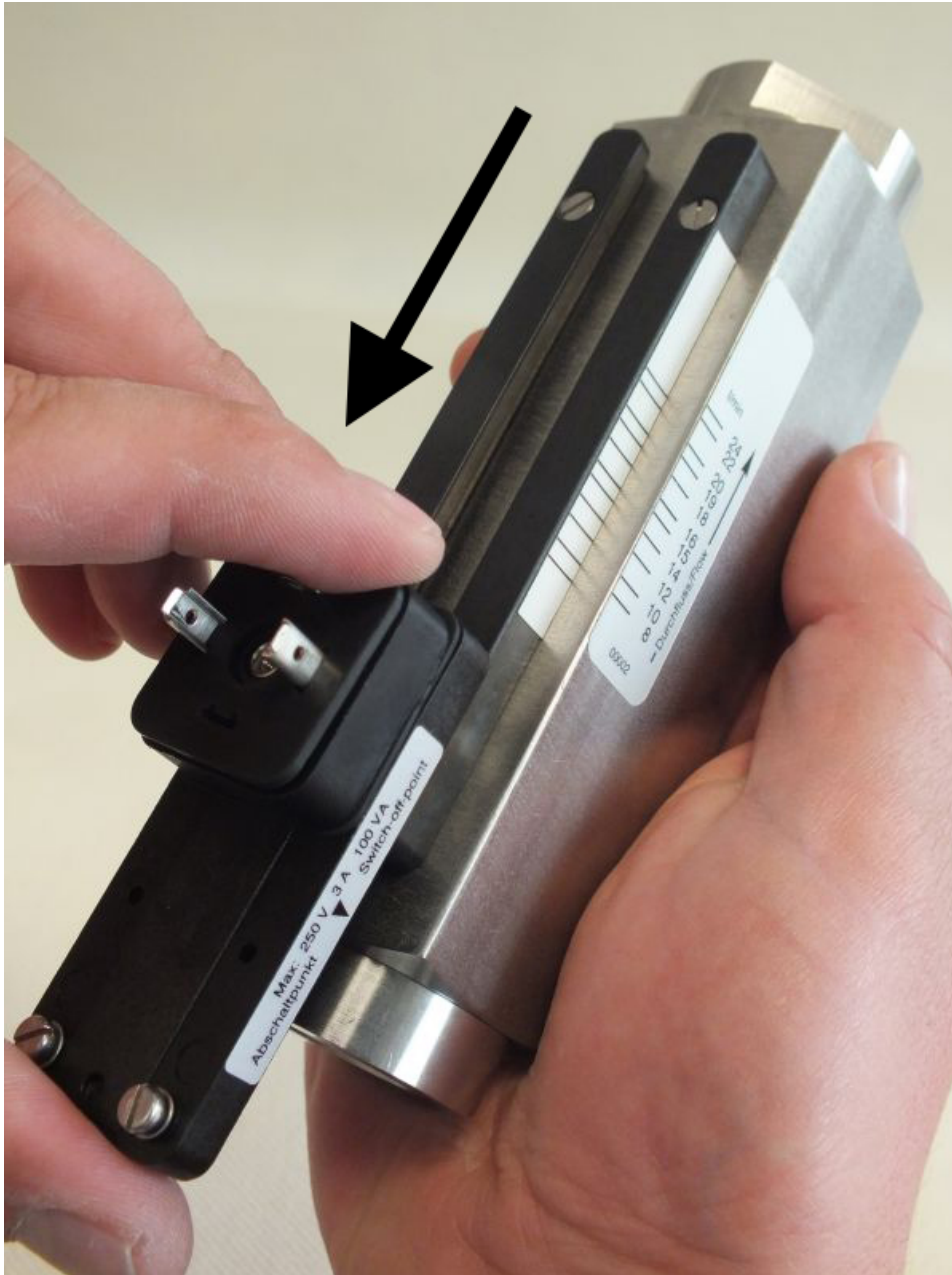

Fig. 81: Remove switch contact from guide rails
4. ➤ Remove the switch contact from the guide rails by sliding the switch contact in the direction of the arrow (Fig. 81).